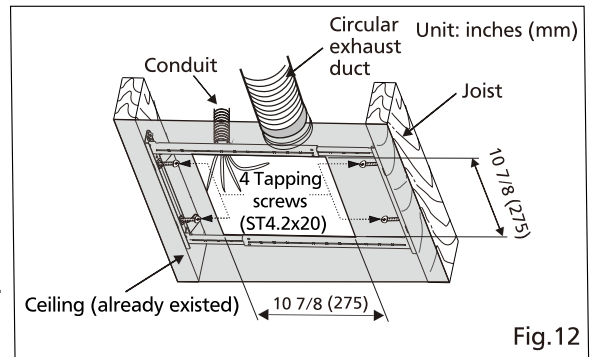

Fig.12
1. Remove the existing fan and cut ceiling opening. Install the Flex-Z Fast™ bracket to joists by using the 4 pre-installed tapping screws (ST4.2x20). Leave existing ductwork and wiring in place. (Fig.12)